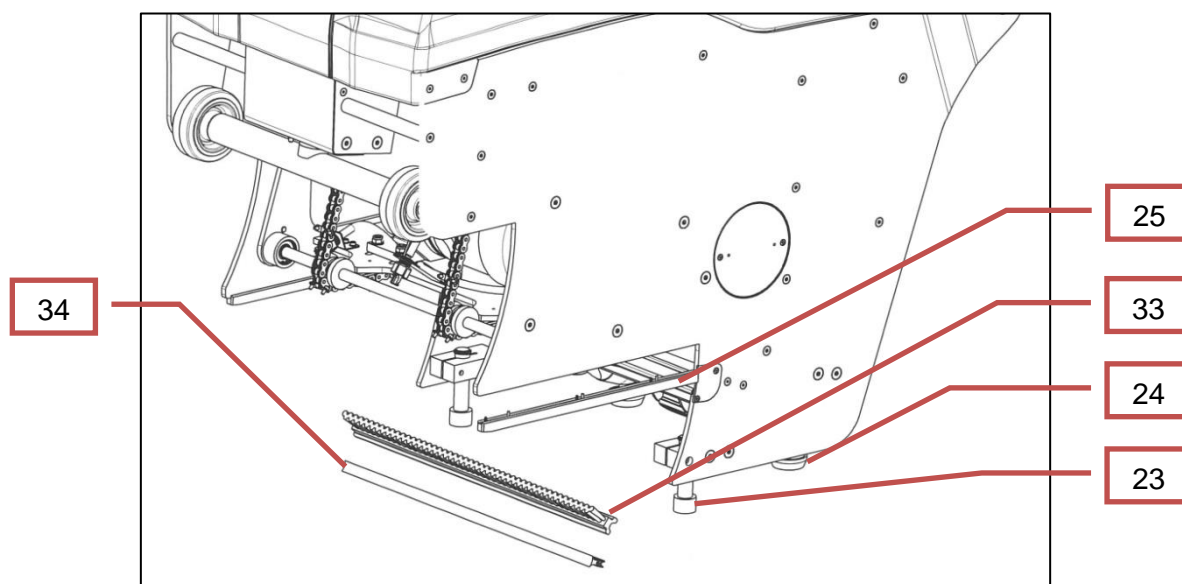
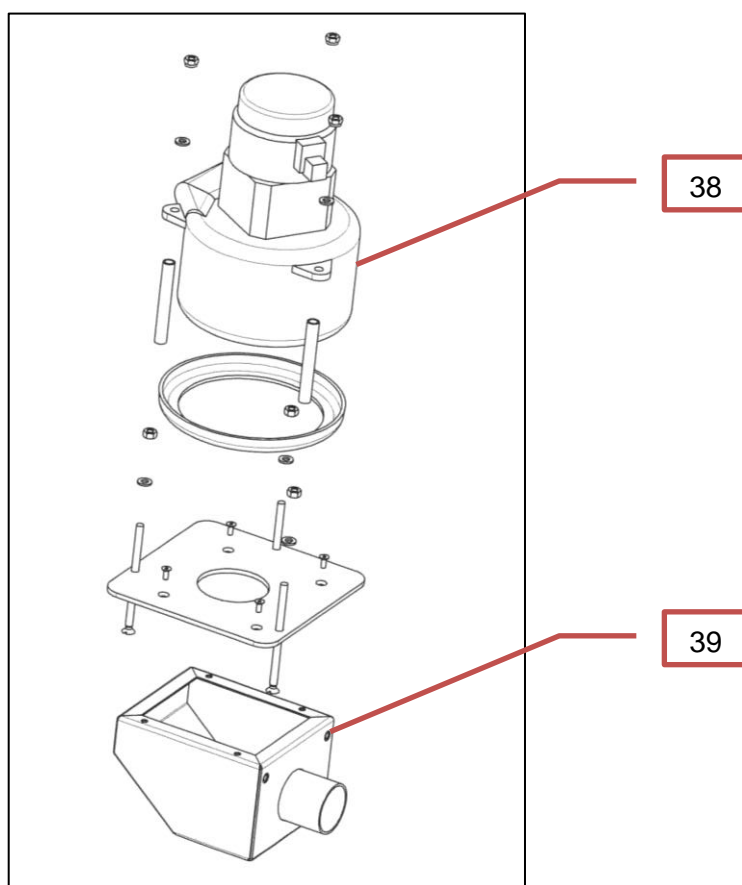

Figure 19 Seal strip
Figure 20 Collecting container
- Always empty the dirty-water tank (21) following use and rinse thoroughly with water
- Inspect brushes (1) and clean.
- Rinse out suction basin (32).
- Clean stripping brush (33).
- Clean and lightly lubricate the extended lifting spindles (22).
- Check seal strips (34) and renew if necessary (Fig. 19: Seal strip).
- Check chains (35) for correct tension and, if necessary, tighten with chain adjuster 44) (see Chapter 4.6.1 Tightening the chain and Fig. 20: Chain drive /Spraying nozzle).
- Clean chains (35) and treat with a chain spray.
- Check spray nozzles (36) and clean if necessary.
- Check glide rails (25) on the right and the left. Replace if showing signs of wear (Fig. 19: Seal strip).